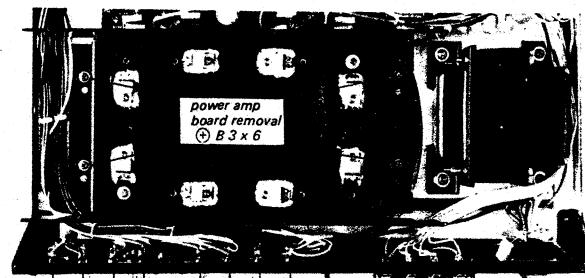

Fig. 2-7. Power amplifier board removal
2. Remove the four screws (\oplus B 3 x 6) securing the power amplifier board to its mounting bracket as shown in Fig. 2-7.